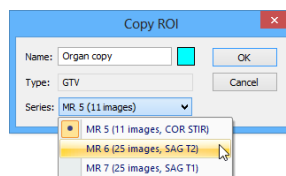

Figure 249 – Copy ROI dialog - selecting the target series
5. Select the target series from the **Series** drop-down menu, if desired (see Figure 249). It is only possible to select a target series that is registered with the source ROI series. The “source ROI” series is the default target series.